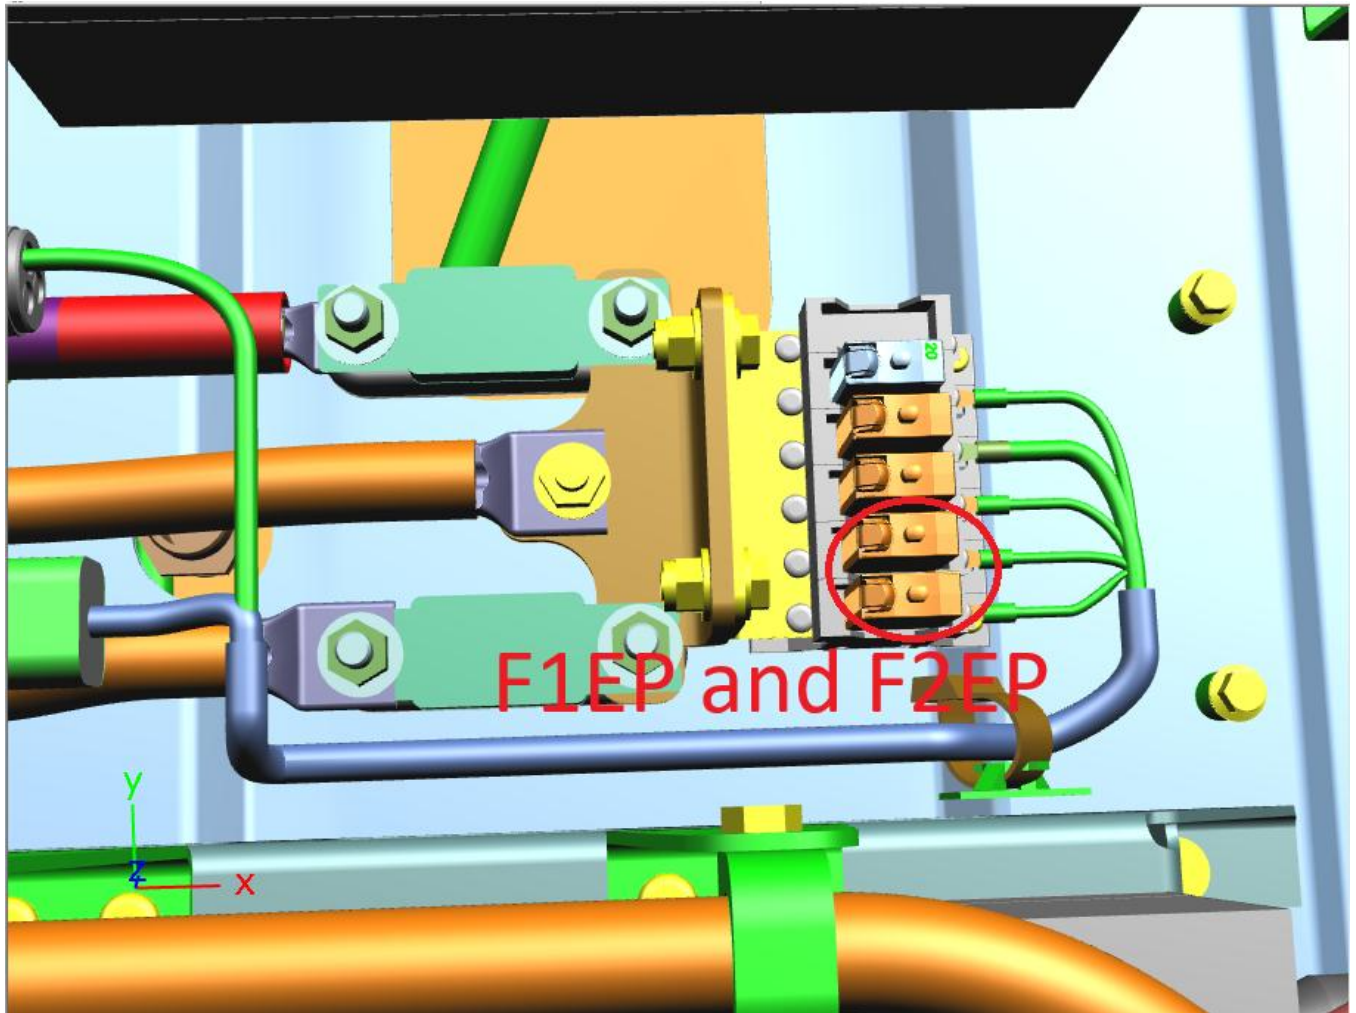

Figure 3: Centre axle inverter fuses F1EP and F2EP
19. Open the lid of the box and locate fuses F1EP and F2EP. Remove both of them and store nearby for reinstallation later, see figure 3.